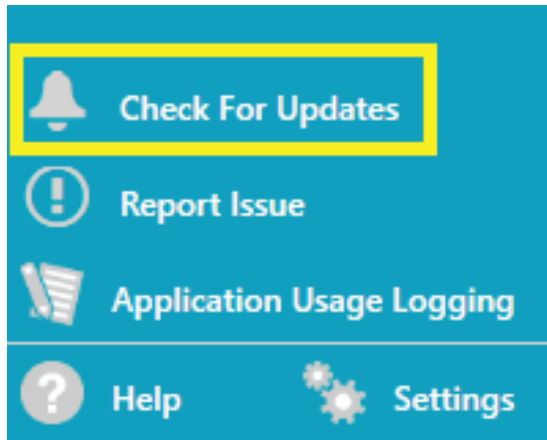

Figure 2. Check For Updates Option in the ACE Sidebar
1. Download and install the **ACE Software** from the ACE web page. If ACE is already installed on the computer, ensure that the latest version is being used by clicking the **Check For Updates** icon in the **ACE Software** sidebar, as shown in Figure 2.